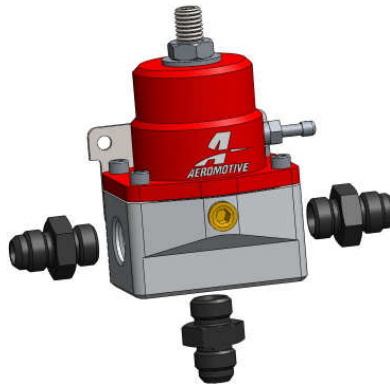

FIGURE 3-1
- 3-3. Install one of the supplied AN-06 o-rings onto the ORB (cut-off) side of all three of the ORB-06 to AN-06 male flare fittings, if not already installed. Install one of these fittings into each of the ORB-06 inlet (side) ports located on either side of the supplied fuel pressure regulator. Install the remaining ORB-06 to AN-06 male flare fitting into the bottom, return port of the supplied fuel pressure regulator. See **FIGURE 3-1**